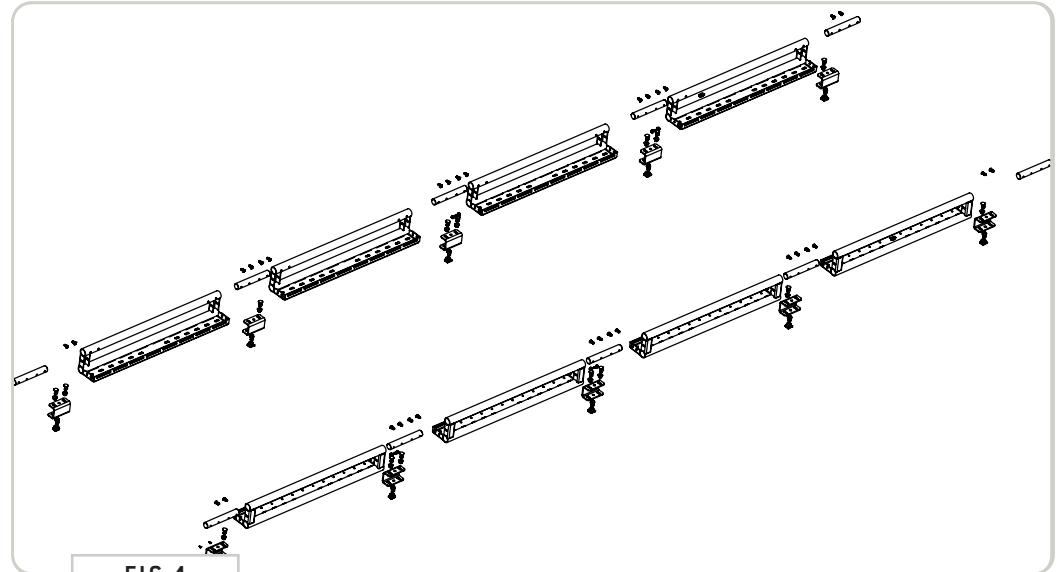

FIG 4
2.2 Assemble Side Rails: Attach another **Side Rail** piece to the protruding end of the **Bayonet** and repeat the process on the other side of the **Side Rail**. See FIG 4 for layout of components.